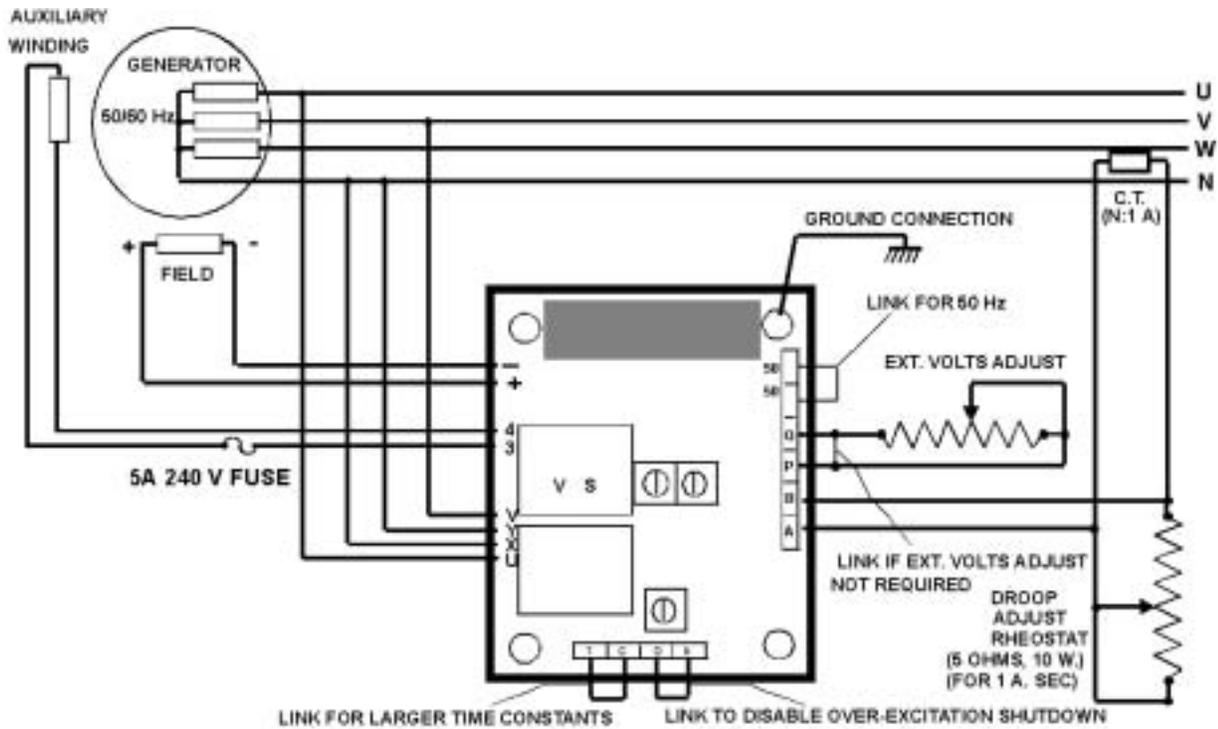

Figure 5. Interconnection Diagram, 480 Vac Generator
Connect regulator + wire to the brushless exciter field F+ terminal, and the - wire to the field F-terminal. Refer to Figure 5.
Connect wiring as shown in Figure 5. Power for the regulator is derived from the generator auxiliary winding, connected to wires 3 and 4. The operable power input range is 220-260 Vac.
An internal screwdriver preset (V) provides coarse adjustment of generator output voltage. A clockwise adjustment of V increases voltage. The voltage regulator is shipped from the factory with a link across terminals P and Q. If a remote voltage adjust rheostat is used, the link should be removed and the rheostat connected to P and Q. A 1 kilo-ohm, 0.5 W potentiometer will provide a 'fine' voltage range adjustment of approximately $\pm 10\%$ over most of the coarse range of adjustment. See Figure 5, *Interconnection Diagram*.